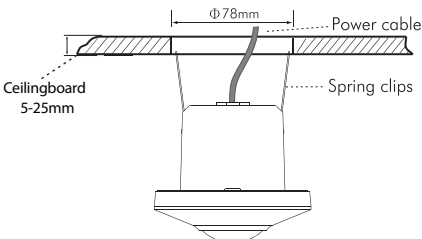

FIG.11
- 4.2.2.4. Close up two spring clips of detector and insert the detector in to the drilled hole on ceiling (See FIG.11).